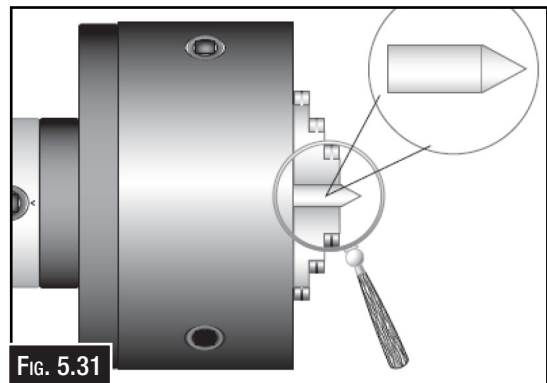

FIG. 5.31
2. Make a dead center by turning a shoulder to make a shank. Flip the piece over in the chuck and turn a 60° point (Fig. 5.31). As long as it remains in the chuck, the point of your center will be accurate to the spindle axis.